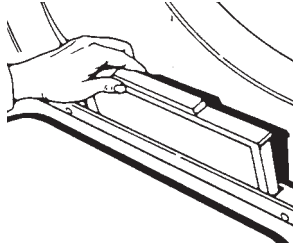

Fig. 4-16
1. Open dryer door and remove lint screen. (Fig. 4-16) Close the dryer door.